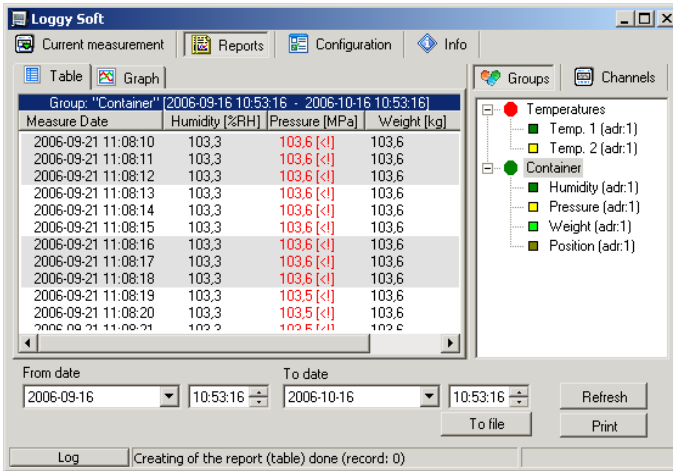

Fig. 3.3. Reports - menu
The **Table** tab (Fig. 3.3) is used for printing information concerning recorded measurements (e.g. temperature, humidity) in the form of a table for one of the groups or a particular measurement channel selected by the user (for more information on groups see 3.3.2 section, at page 91). This tab also enables the export of data to text format files. The exported file is formatted in a way allowing the transfer of data to a calculation sheet.
- click appropriate tab **Groups** or **Channels** (Fig. 3.3),